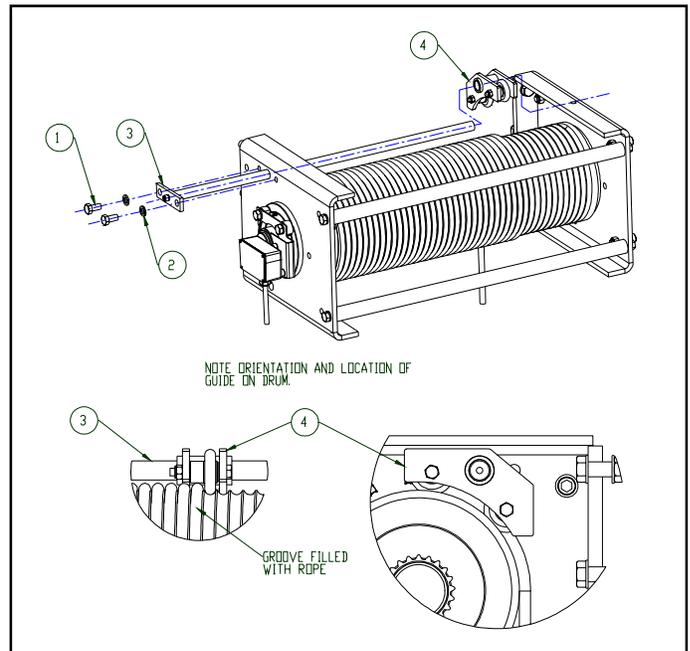

Figure 5-3b. Rope Guide Assembly ('D' Frame)
- (4) Remove the split plastic shroud (Item 2) from the drum. When reassembling the rope guide, be sure the plastic shroud (Item 2) fits snugly in the rope guide body groove.
- (5) Thoroughly clean and inspect all components.
- (6) Follow steps in reverse to reassemble. Be sure to regrease the rope guide with **MPG** (Paragraph 4-7), after assembling.
- c) **Disassembly for "D" Frame.** Refer to Fig. 5-3b. For further assistance in locating components, refer to the parts list in Section IX.
- (1) Remove hex head cap screws and lock washers (Items 1 and 2). Pull back on drum frame rod assembly (Item 3) until the free end pulls free of the gearcase end drum bracket.
- (2) Slide the rope guide assembly (Item 4) off the end of the drum frame rod and remove from drum groove area. Note the required orientation of the rope guide assembly for re-installation.
- (3) Thoroughly clean and inspect all components.
- (4) Follow steps in reverse to re-install, paying attention to orientation and making sure to seat the assembly into the correct drum groove. Be sure to regrease the rope guide with MPG (Paragraph 4-7), after assembling.